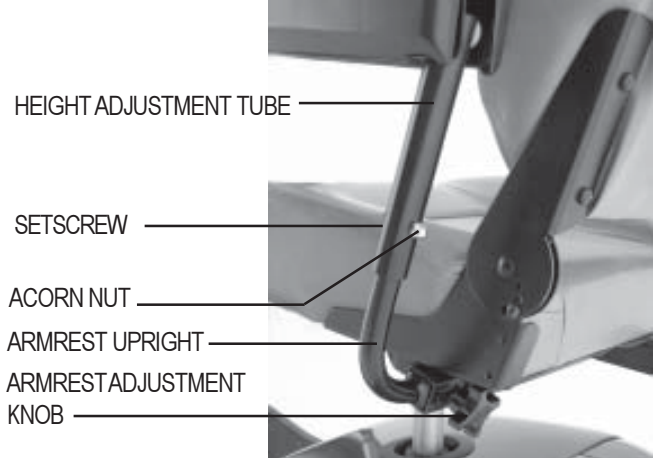

FIGURE 16. ARMREST ADJUSTMENTS
Refer to figure 16 when adjusting the armrest height.
1. Loosen the setscrew on the side of the height adjustment tube with the 1/8-in. hex key. See figure 16.